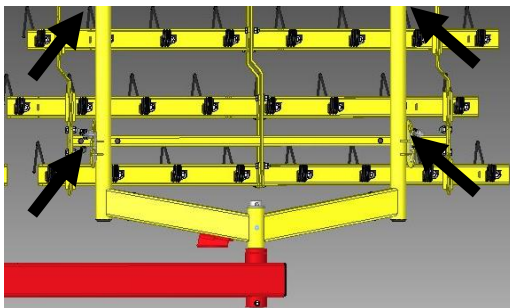

Figure 9
- Install the new tine sections on the tine section fork with the four chains and secure them with cotter pins (Figure 9).